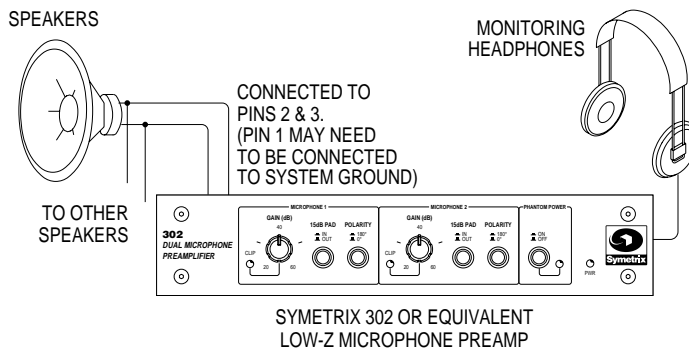

Figure 7-3 Using a microphone preamp to hear the sense speakers.
6. **The accuracy of the 572 is only as good as the sample audio that your speakers provide when the unit is sensing.** If any of the system speakers are located near noisy equipment such as vending machines, ice machines, air conditioning blowers, or separate paging speakers the level of the 572 system will increase disproportionately with the noise level of the noisy equipment. Disconnect the speakers from the system, connect them to the input of a balanced, low-impedance microphone preamp (like the Symetrix 302 shown in Figure 7-3) and listen in headphones to what the 572 “hears” when it is sampling!